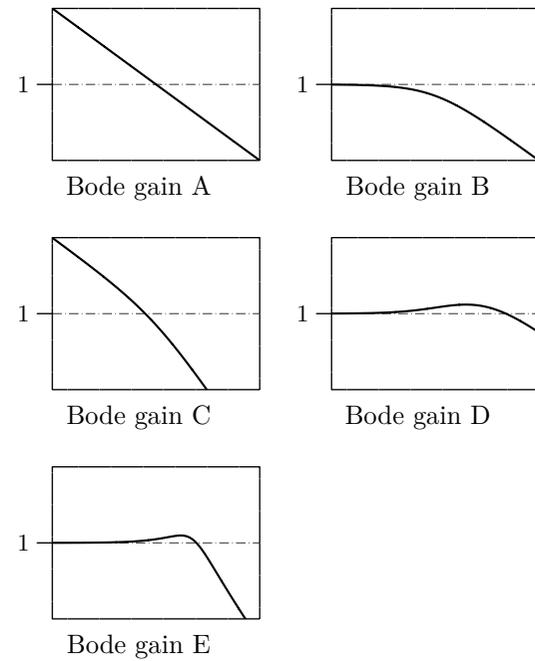

Figure 4.9a. All diagrams have equal scaling.
- 4.9 Combine the transfer functions below with the Bode plots in Figure 4.9a.